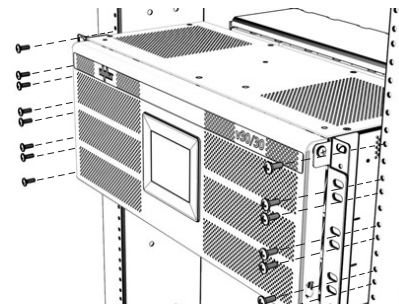

Figure 3. Rack Install
- Step 2.** Secure panel to equipment rack by tightening the included 12-24 hardware into the mounting ears (see Figure 3).